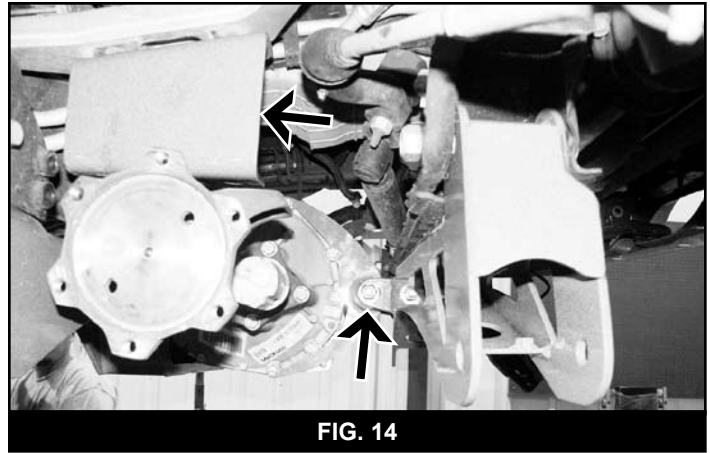

FIG. 14
38. Install the provided passenger's side differential bracket (01186) to the OE differential mounting studs and retain with the original nuts and washers (Fig 14). Leave hardware loose. The wide end of the bracket goes to the front and the open side faces inward.
41. Install the new front crossmember (01180) in the lower front OE control arm pockets using the original control arm pivot bolts, nuts and washers. When install the crossmember, align the front differential in the tabs on the back of the crossmember (Fig 14). Leave mounting hardware loose.